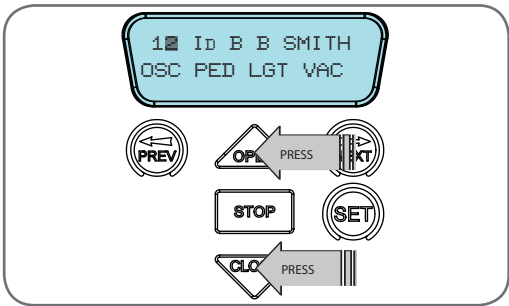

Fig G.4
- Press the OPEN or CLOSE buttons to navigate through the list (**Fig. G.4**).